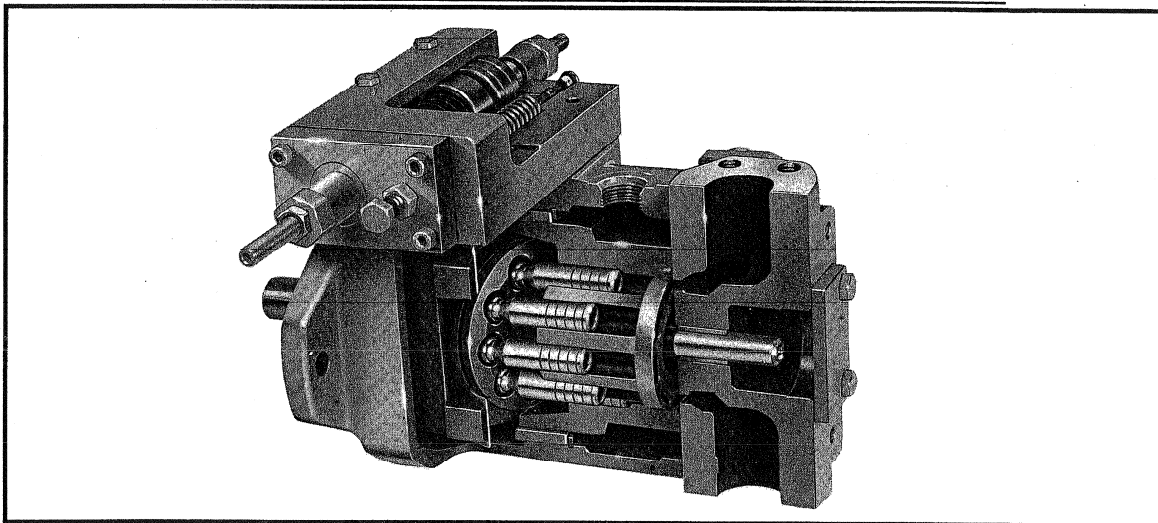

Figure 2. Cut-a-Way (cross section) of Typical "PVWH" Pump from the right side. (88050R)
Refer to Figures 2, 10 and 11. A driveshaft (1) runs through the centerline of pump housing (5), saddle block (8) and valve plate (22). Pump cylinder barrel (18) is splined to driveshaft. A bearing (3) supports the outboard end of the driveshaft and a bushing integral with the valve plate supports the inboard end. The pump cylinder barrel is carried in a journal type hydrodynamic cylinder bearing (12). The valve plate (22) has two crescent shaped ports. Pumping piston/shoe assemblies (15) in the cylinder barrel are held against a swashblock (11) by a shoe retainer (14). The shoe retainer is held in position by a fulcrum ball (16) which is forced outward by shoe retainer spring (17). The spring acts against the pump cylinder barrel forcing it against the valve plate while also forcing the piston shoe against the